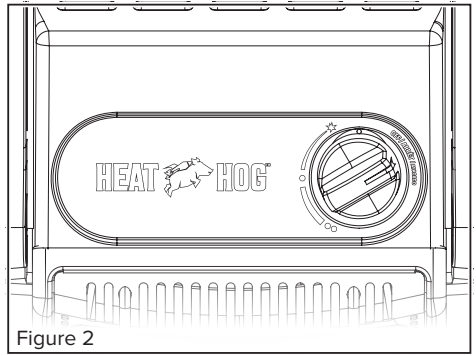

Figure 2
- Before attaching propane make sure Control Knob on heater is in “OFF” position; see Figure 2.
- For **HH-09SNL-A** turn Control Knob counterclockwise to “PILOT” position and depress knob to light; see Figure 2.
- After pilot lights, continue to hold Control Knob down for 30–60 seconds until heating plaques are lit and thermocouple is hot. Release knob. Knob should return to fully extended position; see Figure 2.
- After pilot lights, hold Control Knob down for 30–60 seconds until heating plaques are lit and thermocouple is hot. Release knob. Knob should return to fully extended position; see Figure 2.